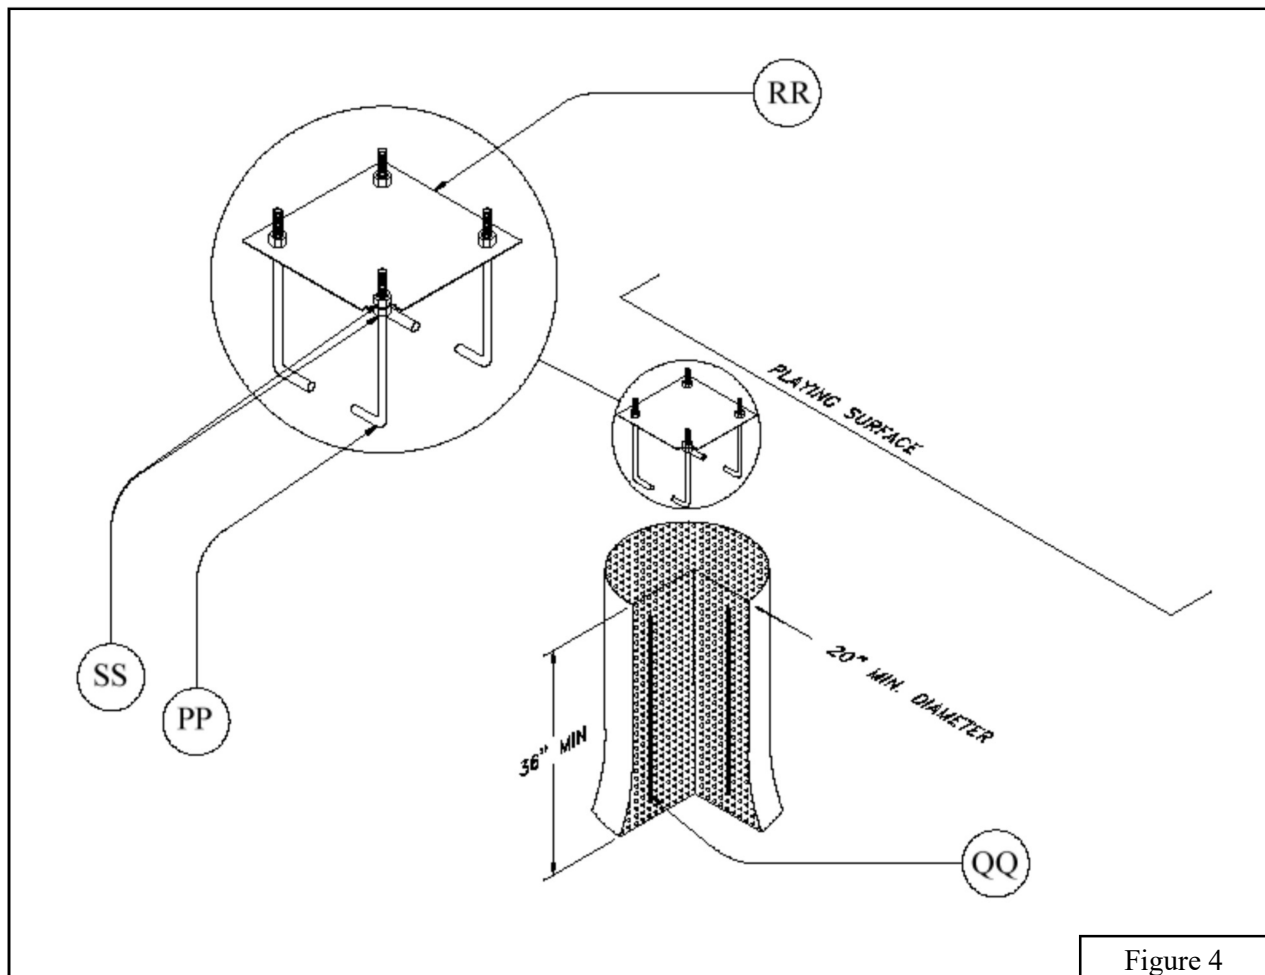

Figure 4
- 9b. Dig a hole a minimum of 20" in diameter and 36" deep. Bell out the bottom 12" of the hole to a diameter that is at least 4" larger than the diameter of the hole at the top. Digging the hole too big is better than digging it too small. See Figure 4.
- 10b. Prepare the "J" Bolt assembly by first threading a 5/8" *Hex Nut (SS)* onto each "J" Bolt (PP) so that approximately 2-1/2" of thread is protruding above the nut. Place the threaded end of each "J" Bolt (PP) through the four holes in the *Template (RR)*. Thread a second 5/8" *Hex Nut (SS)* onto each "J" Bolt (PP) on the top side of the *Template (RR)*. Tighten the nuts on both sides of the *Template (RR)*, making sure that the same length of "J" Bolt (PP) (2" minimum) is protruding above the *Template (RR)* in all four corners and that the "J" Bolt (PP) "legs" are pointing toward the center of the *Template (RR)*. See Figure 4.
- 12b. A 20" diameter by 36" deep hole, with additional soil removed from the bottom 1/3, will require approximately twenty 60 lb. bags of *Premix Concrete (GG)*. Allow for more if the hole is deeper or wider. Make sure you have enough concrete on-site before pouring, because allowing a portion to dry before the hole is completely filled will affect the strength of the footing.
- ◆ Damaging threads on J-Bolts making it impossible to install 5/8" Hex Nuts (SS).
- 15b. Drop the *Rebar* (QQ) into the wet concrete to help support the concrete footing.
- 16b. Insert the "J" bolt assembly into the wet concrete. Be sure the *Template* (RR) is parallel to the desired position of the backboard and the edge of the playing surface. Use the tape measure to double check. Vibrate the assembly as you insert it so that concrete fills in around the "J" Bolts (PP). Be sure the *Template* (RR) is pressed firmly against the surface of the wet concrete. The top of the concrete footing should be flush with the playing surface. See Figure 4.
- 17b. Clean excess concrete from edge of hole and level the concrete from the edge of the *Template* (RR) to the edge of the hole. **Allow concrete to cure for 4 days.**